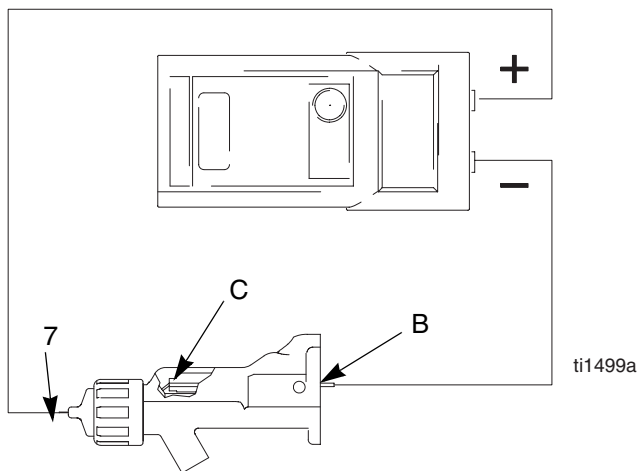

Fig. 19. Test Electrode Resistance
1. Insert a conductive rod (B) into the gun barrel (removed for the power supply test) and against the metal contact (C) in the front of the barrel.
2. Measure the resistance between the conductive rod (B) and the electrode (7). The resistance should be 20-30 megohms. See FIG. 19..